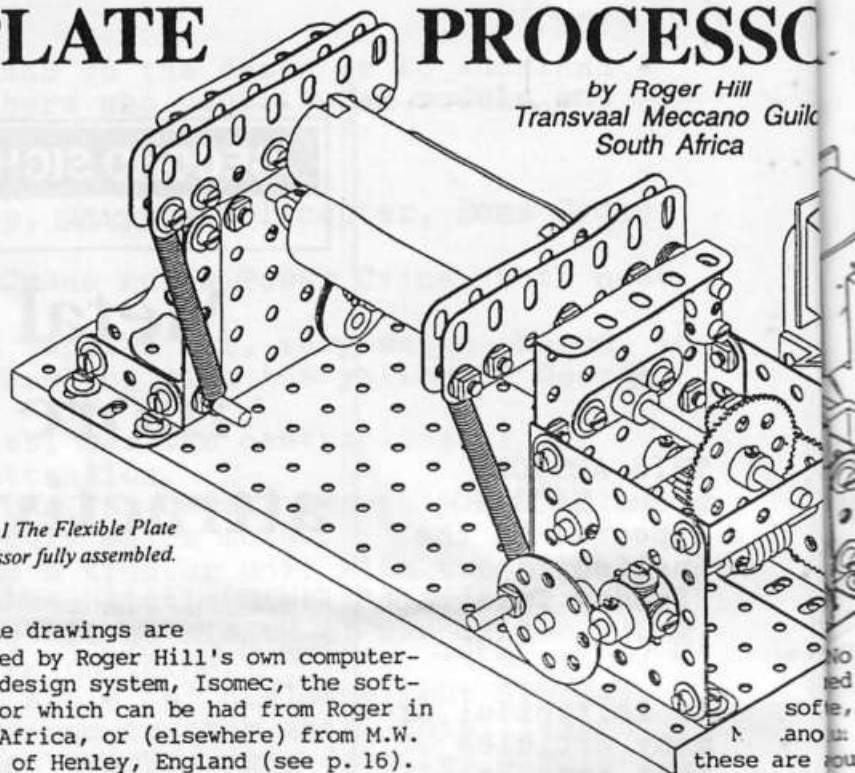

Fig. 1 The Flexible Plate Processor fully assembled.
Only one of the three rollers is driven. This is the bottom of the two rollers seen quite clearly in figure 1. The gear box is shown clearly in figures 1 and 2. Note that double-arm cranks (part 62b) have been used to strengthen the points at which the axle holding this roller (the main drive axle) are journaled. The main drive axle in my model is a non-standard length of 9". A standard 11 1/2" rod could be used.
When constructing the gearing, the roller must rotate in a clockwise direction looking at the mechanism from the front in figure 1. In other words, the plate is inserted in the front (as seen in figure 1) and comes out at the back. In my model, the motor when viewed as in figure 1 rotates clockwise. A 1/2" pinion (part 27a) outside the gear box on the shaft of the motor engages with a 27a gear (part 27d) on another 3 1/2" shaft. This pinion engages with a 27a gear (part 27d) on another 3 1/2" shaft. This worm engages with a 1/2" main drive axle.
A second roller, the top of the two rollers seen in figure 1, acts as a pressure roller. This second roller is loosely held between the two side frames, one of which is shown in figure 3. Each side frame is made of two angle girders (part 103d) spaced apart by two flat plates (part 111a). Each side frame is secured to the main frame by a bolt (part 111a). Each side frame is shown in figures 1 and 2. Each
note that this driven direction when the right of the view plate to be processed in figure 1) and model, the rotation of the diagrams was (6) on the output a 1 1/2" gear (part 3 1/2" axle rod. On gear box is a 3/4" gears with a 1 9/16" rod journalled two in the sides of the rod is a worm (part 1 1/2" gear on the
In figures 1 to 4, this bending roller is shown in its lower position, the position used to flatten previously bent plates. The bending roller is raised and lowered by rotating two eccentrics (part 130a) on an axle below it as shown in figures 3 and 4. The top ends of these eccentrics are loosely fitted onto the axle on which the bending roller is journalled. Care should be taken to ensure that the eccentrics rotate in unison and that the top ends do not foul the free rotation of the bending roller on its axle.
The end of the axle to which the eccentrics are fixed protrudes into the gearbox as can be seen in figure 2. On the end of this axle is a pinion (part 26) which engages with a worm (part 32) on another shaft which protrudes from the front of the gearbox. This shaft is turned by a bush wheel (part 24) into which has been fixed a threaded pin (part 115) - see figure 1.